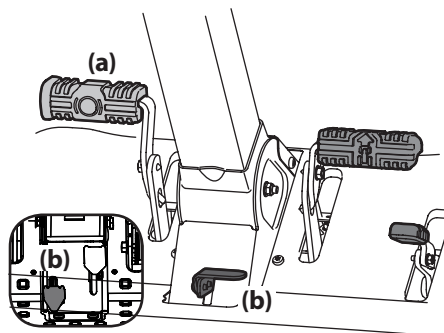

Figure 3-3
2. Engage the parking brake by pressing forward on the brake pedal (a), then press down on the parking break/cruise control lever (b) and then release the brake pedal (a). Refer to Figure 3-3.